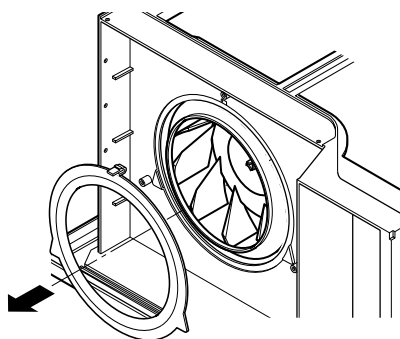

Figure 5
9. Pull out the hook of orifice by pushing the tabs and remove it. (See Figure 5)